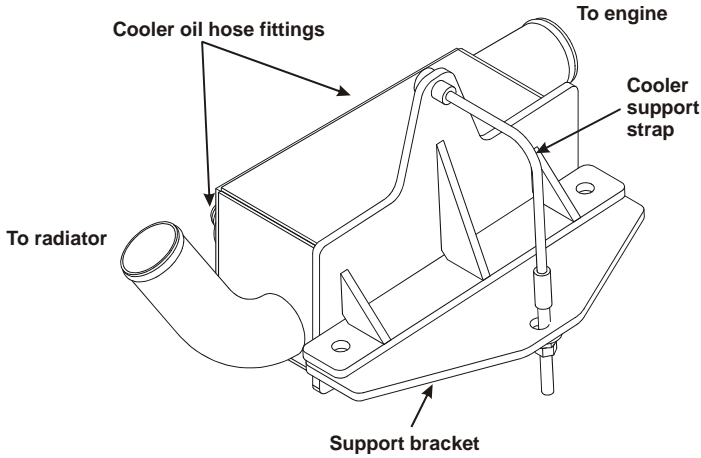

Figure 2.6
- Remove the strap and the support bracket from the cooler assembly (Figure 2.6).